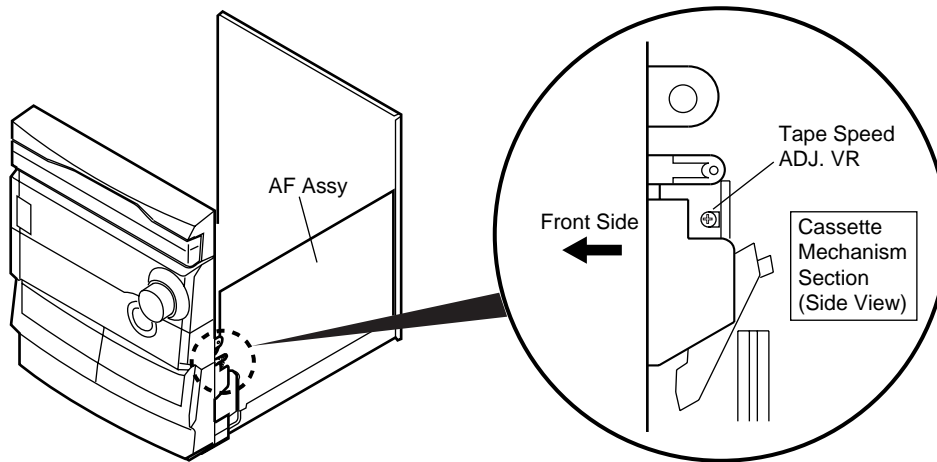
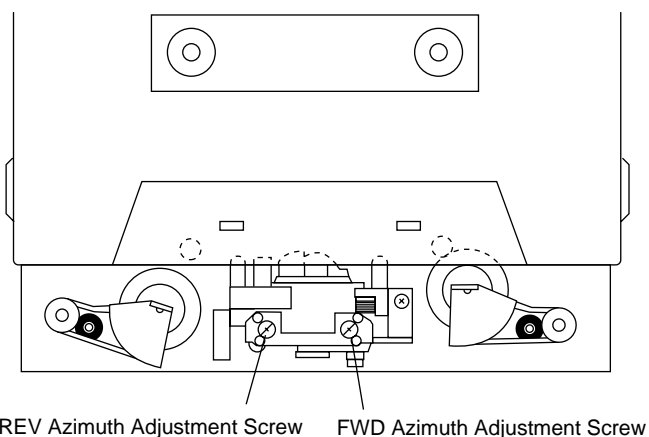

Fig.3 Tape Speed ADJ. Point
Fig. 5 Head Azimuth Adjustment Screw
- Adjustment points and test points are shown in Fig.3, Fig.5 and Fig.7.